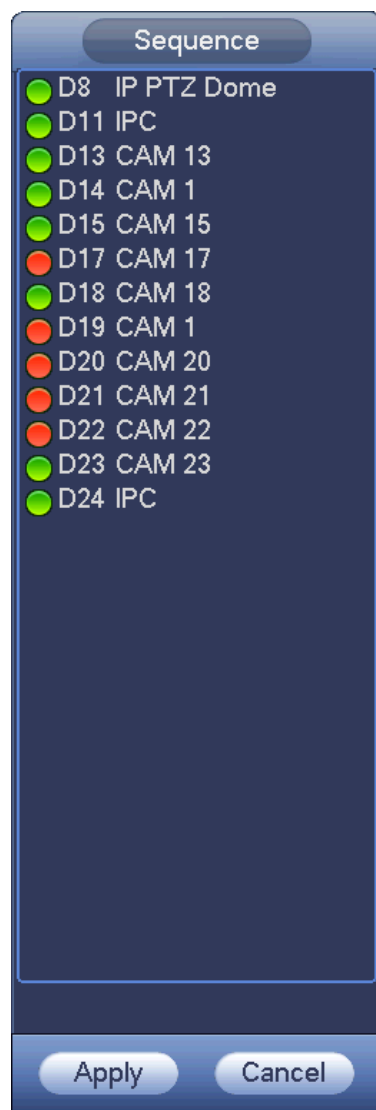

Figure 4-64
Step 1 On the preview interface, right click mouse and then click Edit view. Enter edit view interface. See Figure 4-64.
- In case the channel amount has exceeded the device max split amount, the edit view interface can display the max screen number amount and current screen number. In Figure 4-64, click  or , switch the video from other channel.